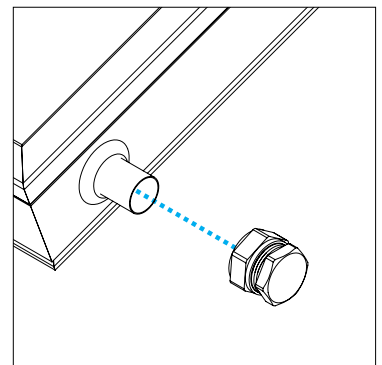

Figure 9. Compression plug
16. Slide a compression plug assembly (*Figure 9*) onto the top left and bottom right connections of the collector array. Tighten the assemblies.